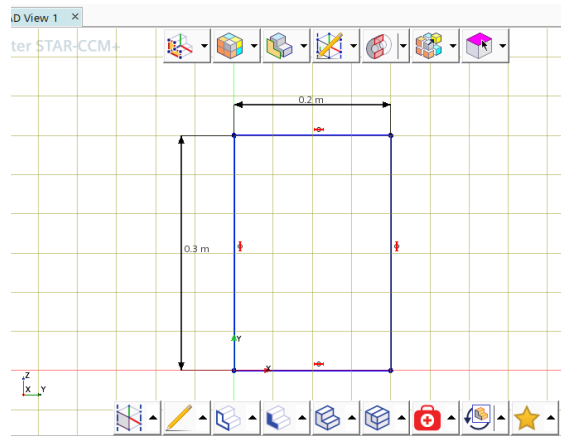

Figure 9: Completed duct cross-section sketch.
9. Right click on one of the vertical lines and select the **Apply Length Dimension** under the **Dimensions** section. The **Dimension Window** will open. If necessary, change the length of the line to 0.3 [m] and click OK. The completed sketch with dimensions is shown in the following Figure 9.